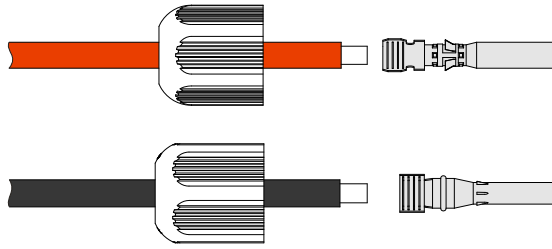

Figure3-17 Crimp the metal terminal
Step 2 Unscrew the lock nut of positive and negative connection, lead the positive and negative wires go through corresponding lock nut, and then insert the positive wire and negative wire into the positive metal terminal and negative metal terminal respectively. Crimp the metal terminals firmly by crimping pliers, as shown in Figure3-17.